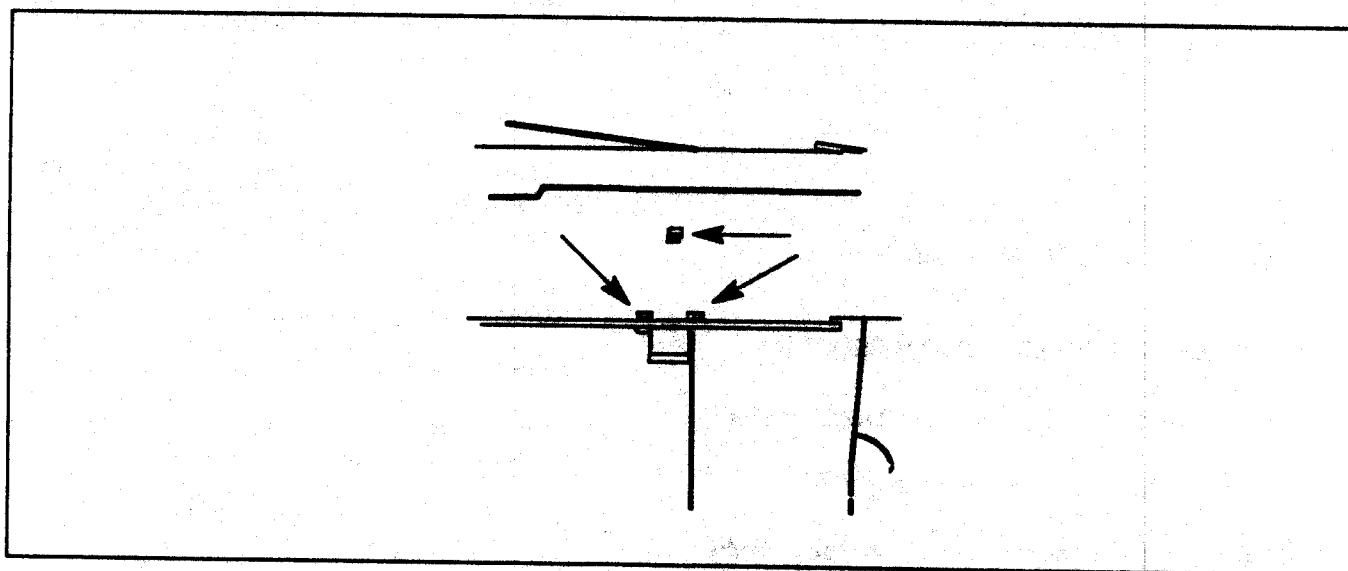

Figure 6-4. Window Removal
- b. Compress the tabs of each window hinge and push them back out of the center cover. See Figure 6-4.